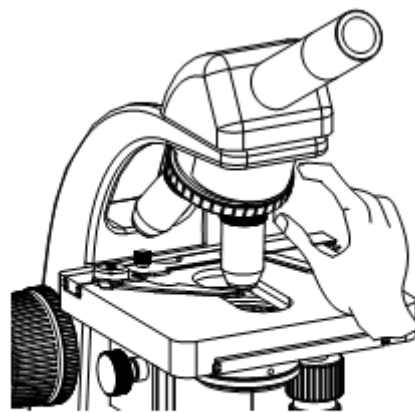

Fig.8
7.5.1 By rotating the Revolving nosepiece , make sure that lower magnification objectives(4X or 10X) are in the optical center, and get a wide field of view.(Fig.8).